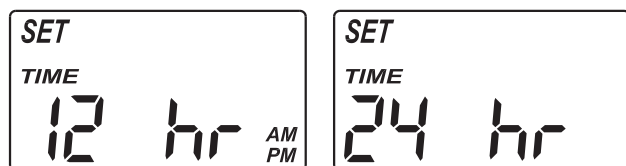

FIG. 27
2. Press the SELECT button three times, so that “12 hr” or “24 hr” flashes in the display (See Figure 27).